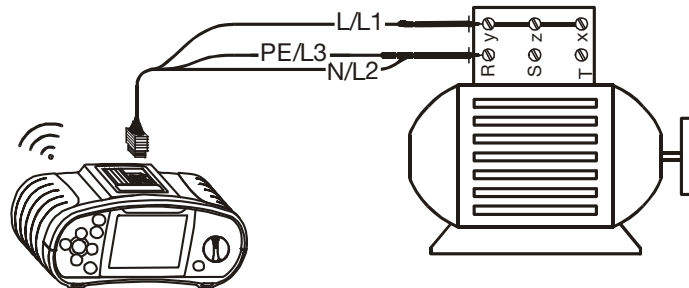

Fig. 5.10: Connection of universal test cable
Step 3 Connect test cable to the item under test. Follow the connection diagram shown in figures 5.10 and 5.11 to perform **Continuity** measurement. Use the **Help** function if necessary.